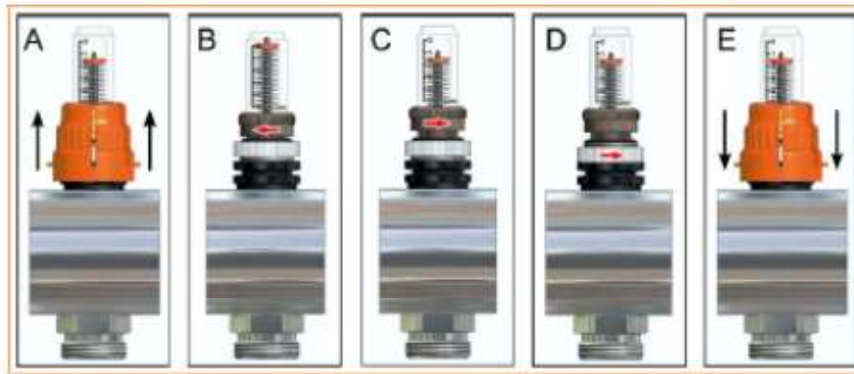

Fig. 1: FLUXER adjustment and block.
1. Remove the orange cover as in Fig.1-A;
2. Set the FLUXER in closure position by turning the upper lock ring in the direction indicated by the arrow in Fig.1-B;
3. Open the device by turning the same lock ring in the opposite direction (Fig.1-C), and check the correct flow rate through the spyglass;
4. Screw the lower lock ring in the direction indicated in Fig.1-D, until mechanical stop;
5. Put back the orange cover (Fig.1-E);